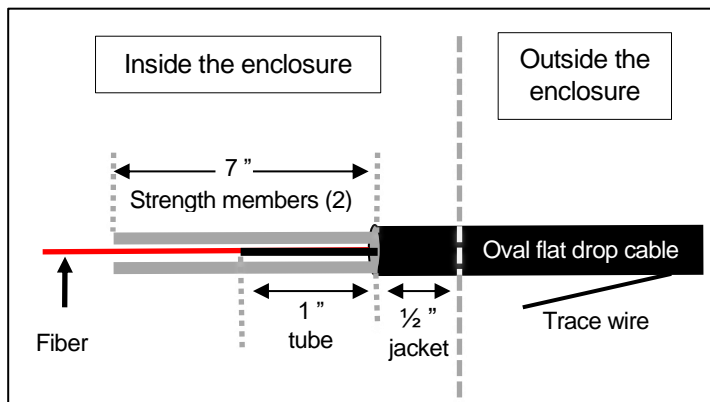

Figure 7. Flat Drop cable / strength member preparation
For Flat Drop Cable (Figure 7)
- ① If using FLAT drop cable with central fiber tube, remove the central fiber tube, exposing the inner fiber before routing and storing in the housing. Leave approximately 1" of exposed tubing (Figure 7).
- ② Remove and set-aside the SC bulkhead adapter.
- ③ Temporarily route the fiber around the bend radius controls, approximately three revolutions, until it reaches a position to allow either fusion splicing or termination using field installable connectors. Mark and trim the fiber to length.
- ④ Prep the fiber for splicing or for terminating to a connector using approved company practices.
- ⑤ Route the fibers around the fiber management features and store the fusion splice protection sleeve in the holder or re-install the SC bulkhead adapter into its holder, then clean and insert the fiber connectors into the adapter.